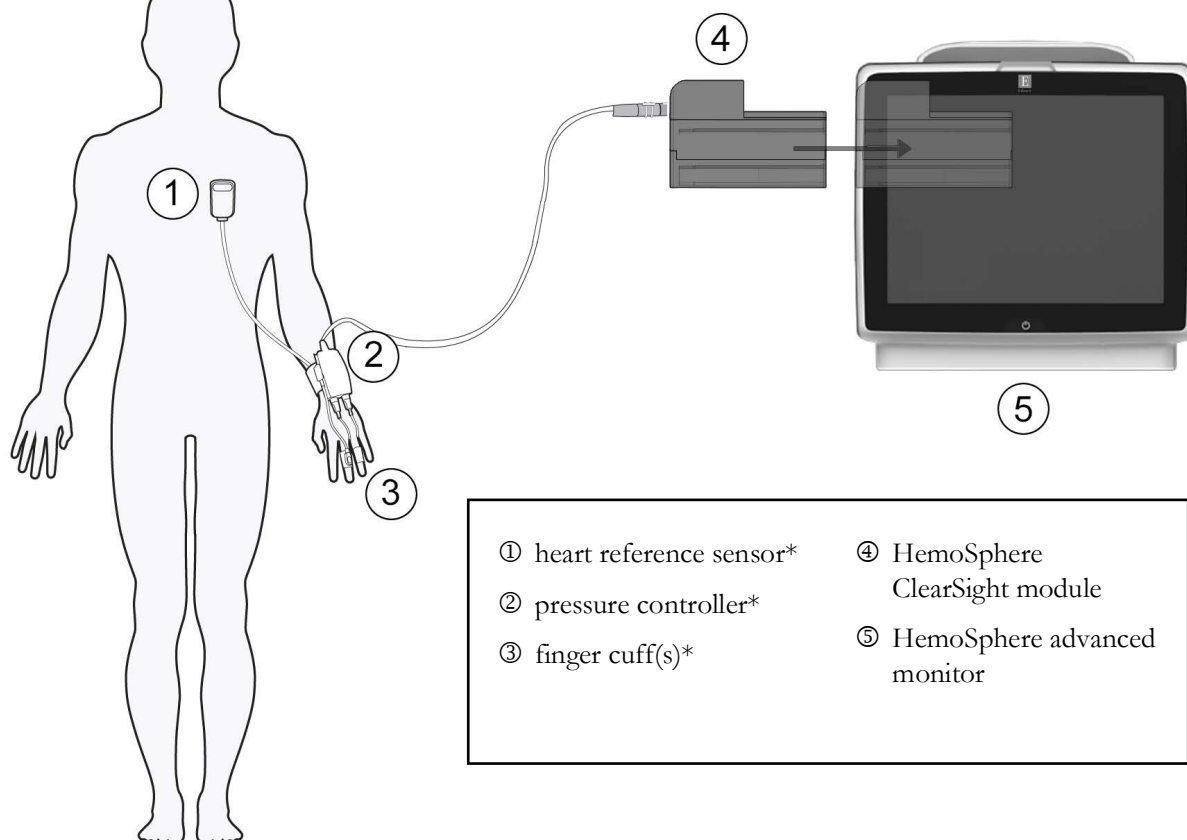

Figure 11-1 HemoSphere non-invasive system connection overview
The HemoSphere non-invasive system is composed of the HemoSphere advanced monitor with ClearSight module and connected pressure controller, heart reference sensor, and compatible Edwards finger cuff(s). See system connections in figure 11-1 on page 198. Accurate measurement of the patient's blood pressure and key hemodynamic parameters is based on the Volume Clamp method, Physiocal method and ClearSight technology.
The HemoSphere ClearSight module is compatible with all approved Edwards finger cuffs. See figure 11-1 for an overview of the HemoSphere non-invasive system connections.
NOTE Components indicated by * figure 11-1 legend are APPLIED PARTS as defined in IEC 60601-1 that in normal use necessarily come into physical contact with the patient for the HemoSphere non-invasive system to perform its function.
- 3 Attach the pressure controller cable to the HemoSphere ClearSight module. (figure 11-1).